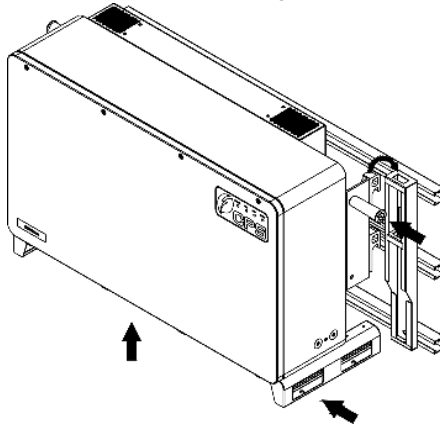

Figure 3-8 Handle positions
- B. Manual mounting: Three people are needed to properly lift the inverter by the handle positions marked in Figure 3-8, and mount the inverter onto the mounting bracket.